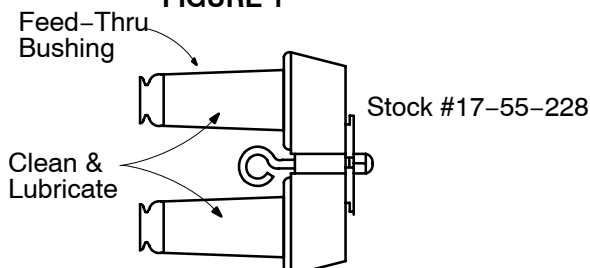

FIGURE 2
2. Remove protective covers from the feed-thru bushing. Clean and lubricate the surfaces of the feed-thru bushing with silicone grease. **ALWAYS REPLACE PROTECTIVE COVERS WHEN THE FEED-THRU BUSHING IS NOT IN USE.** Connect one #14 ground wire to grounding point of feed-thru bushing. Connect to ground, leaving enough slack to operate with a shotgun tool. Feed-thru bushing shown in Figure 2.